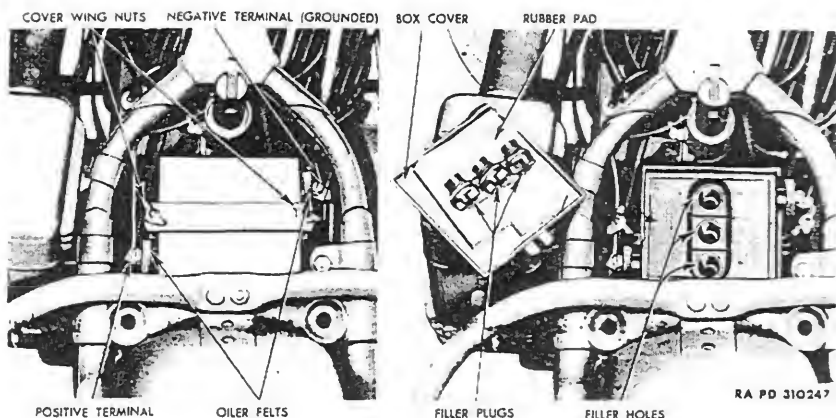

Figure 74—Battery Box Open and Filler Plugs Removed for Service
b. Check Electrolyte Level (fig. 74).
(1) Raise saddle and bar assembly after releasing and removing swivel pin.
(2) Loosen wing thumb nuts on box top hold-down studs sufficiently to disengage bracket slots, then lift off box cover.